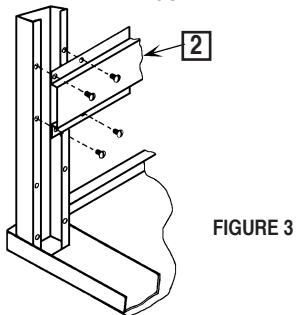

FIGURE 3
4. The stringer (Item 2) is to be attached so the legs along the back edges of bench. (BORROUGHS is stamped on the front edge of Bench). Position stringer so that the holes in the end of the stringer are in line with the holes in the leg. Fasten stringer to leg with (4) screws and weldnuts (Items 6 & 8) as provided. See Figure 3. Repeat procedure at the other end. Tighten screws holding leg weldments and attachment channels together.